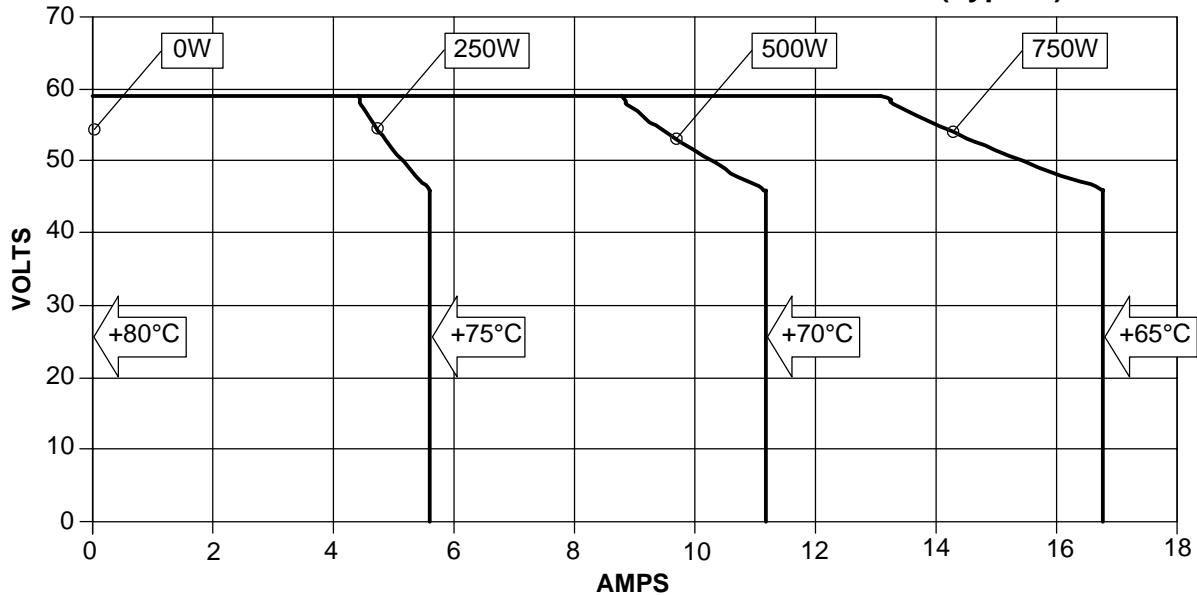

Figure 5
(F) Refer to Figure 5 for a curve that represents the typical LXP1750 output power characteristics at various ambient temperatures. Output voltage and current limit are set to maximum.